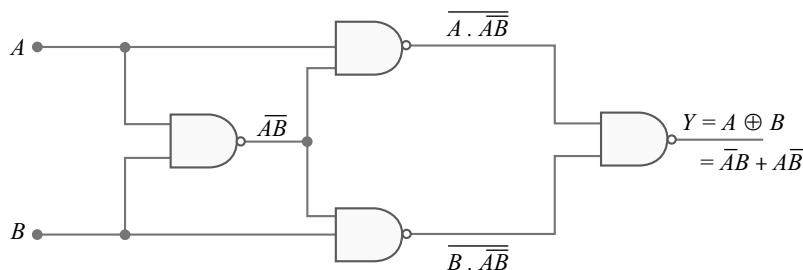

Fig. 24.35
**Solution.** The XOR gate can be produced by using four NAND gates as shown in Fig. 24.35.